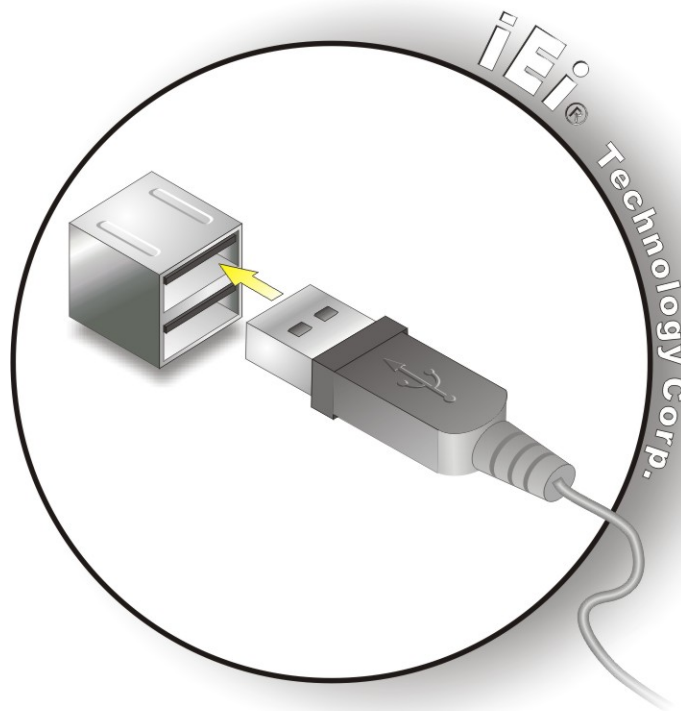

Figure 4-21: USB Device Connection
Step 2: Align the connectors. Align the USB device connector with one of the connectors on the bottom panel. See **Figure 4-21**.